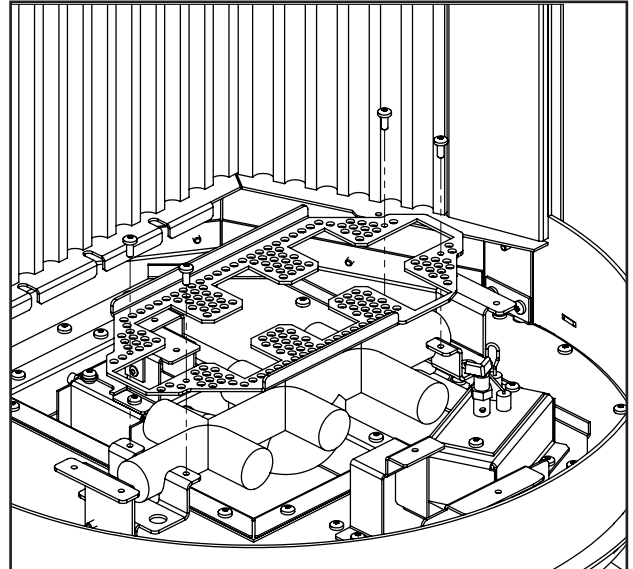

Figure 43: Burner Removal
Remove the four (4) screws securing the perforated burner tray, using a T20 screwdriver, and remove it (see Figure 43). The tube burner is now free to be removed by lifting up and out.